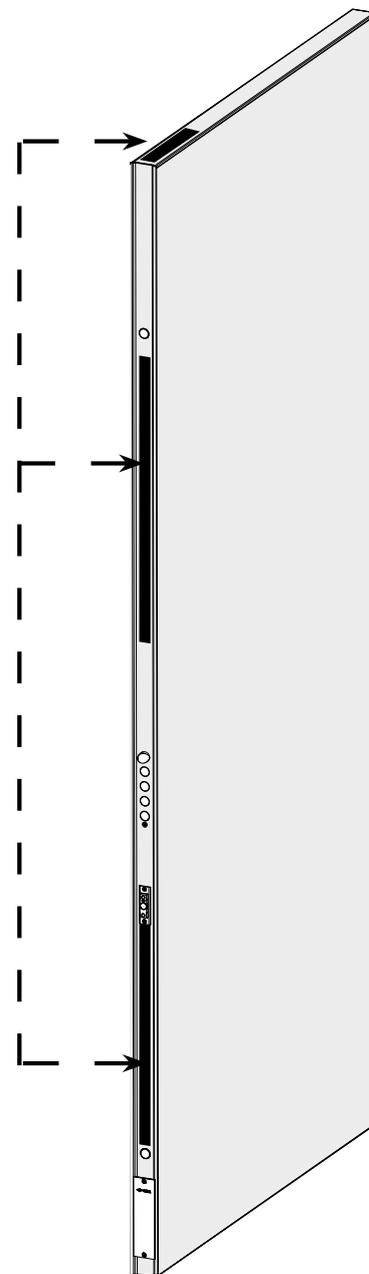

Fig. 3
4. The door status device can be positioned as shown in Fig. 3.